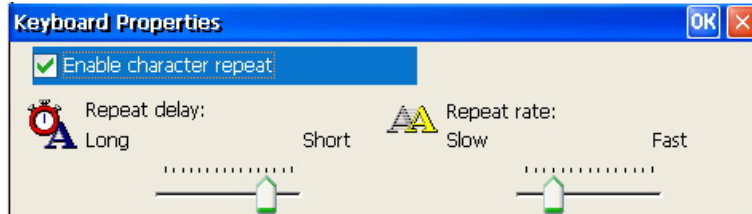

Figure 6.4
6.5.2 Figure 6.4 shows the dialog for setting the mode of buttons' operation.
In the windows shown in **Figures 6.4 and 6.5** :